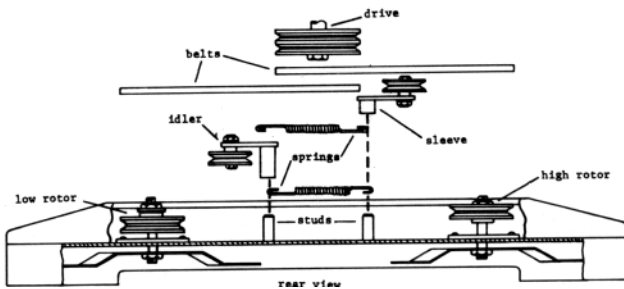

fig 2
3. Mount the idlers on the studs as in fig 2. Note the different sleeve lengths of the idlers. The short sleeve goes next to the high rotor and the tall sleeve goes next to the low rotor. Set the idlers on the studs with the extended sleeves down. Work from the rear of the mower.
5. Hook the springs to the idler assembly from underneath as in figs 2 & 4, solid lines.